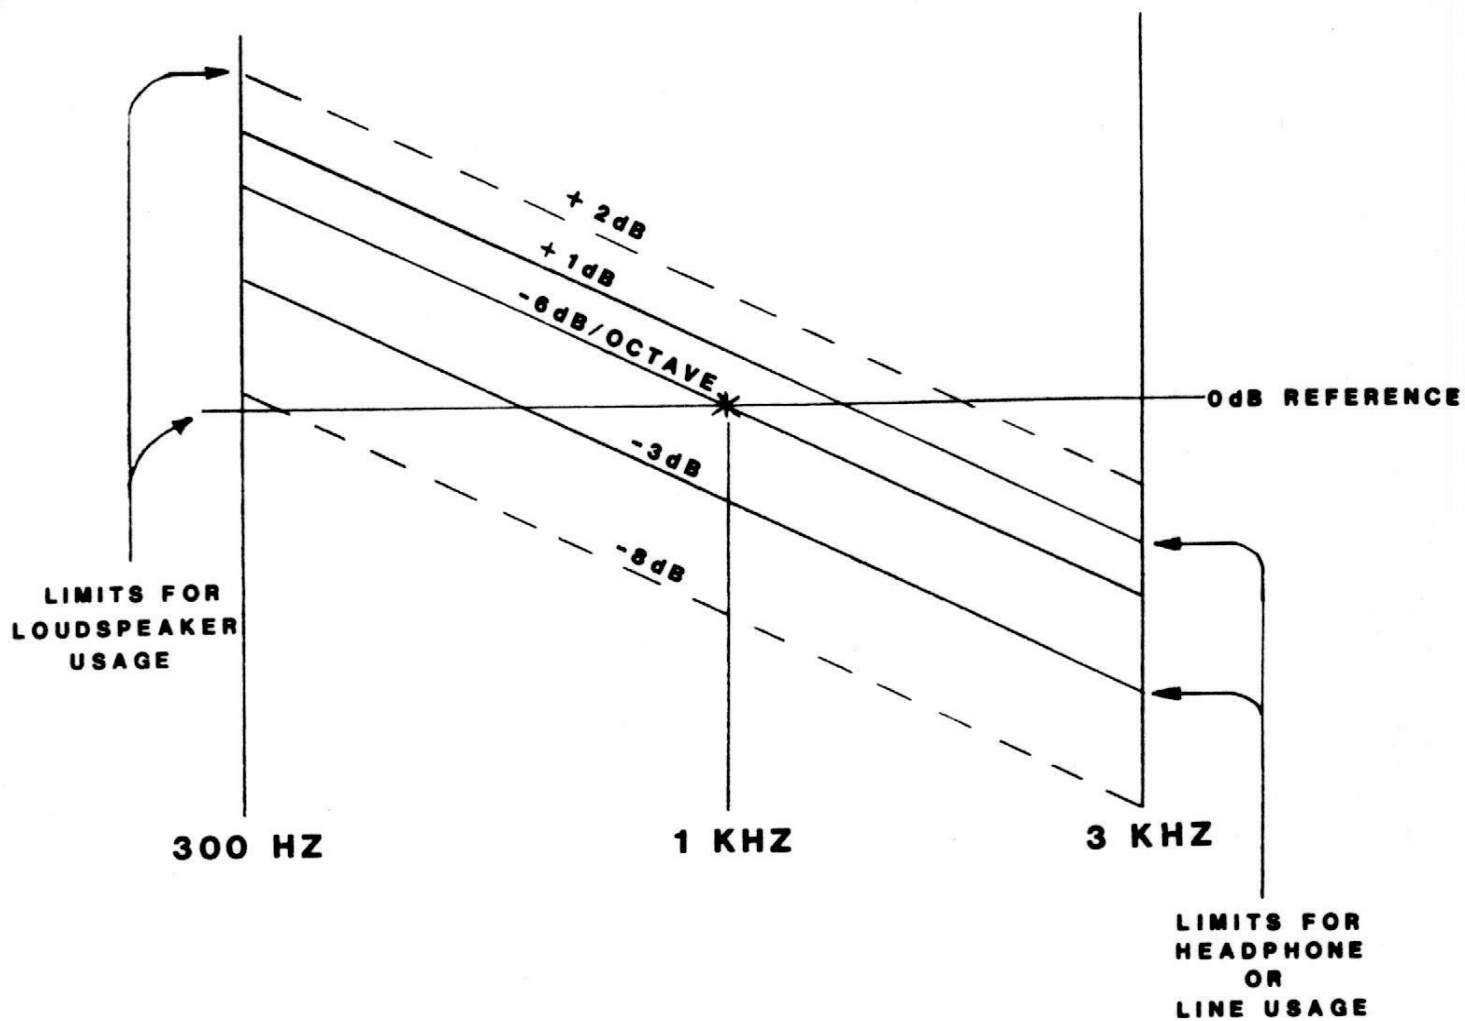

FIGURE 4-4. AUDIO FREQUENCY RESPONSE; EIA STANDARD RS-204C
10. Add or subtract the 1 KHz reference value from each reading taken in step 7. Plot the resulting values on a curve and compare them with the 6 dB per octave curve in your receiver's Service Manual or with the standard EIA specification RS-204C, as shown in figure 4-4.